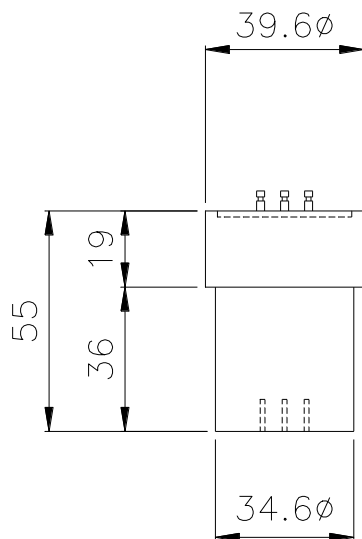

Fig. 2.2.2
*) For EP-adapter (Extended Plug-in adapter) see section 2.2, fig. 2.2.2